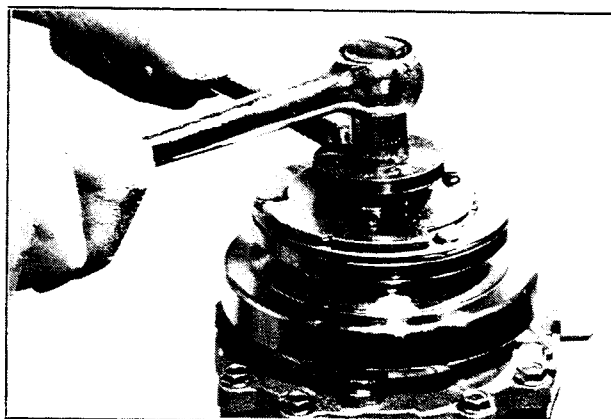

Figure 2B-14
3. Remove shim(s) from top of compressor shaft then using wing circlip pliers J6083, remove the circlip securing the clutch rotor to the clutch core as illustrated in Fig. 2B-15, then lift the clutch rotor assembly off the compressor shaft.